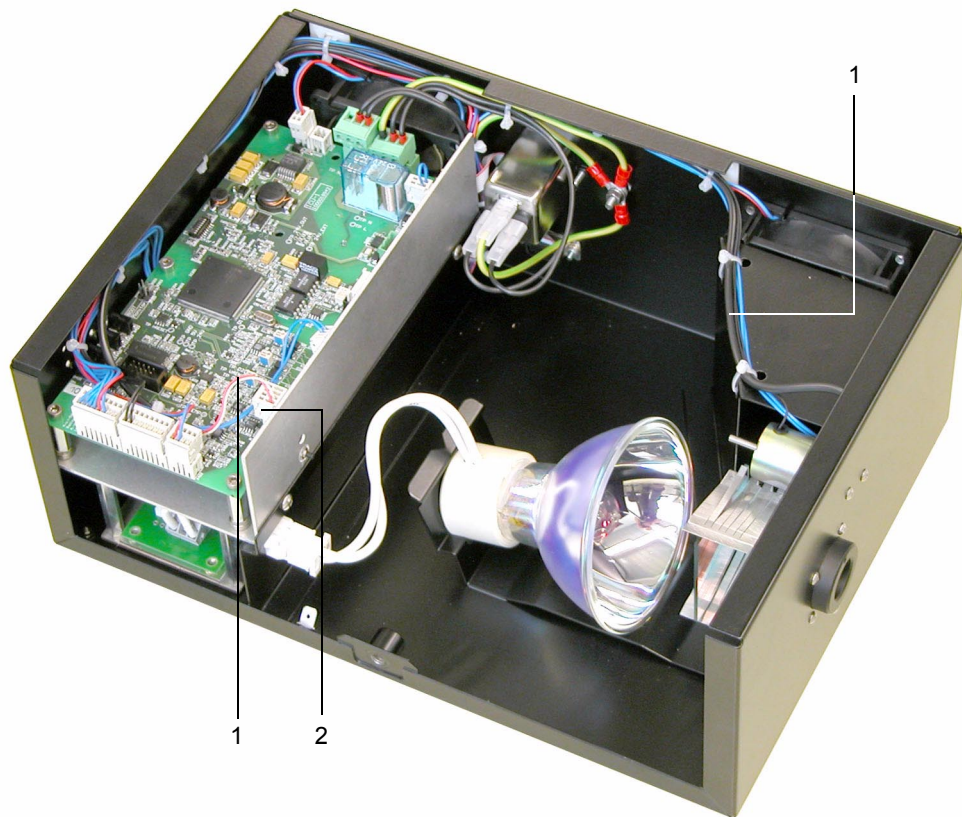
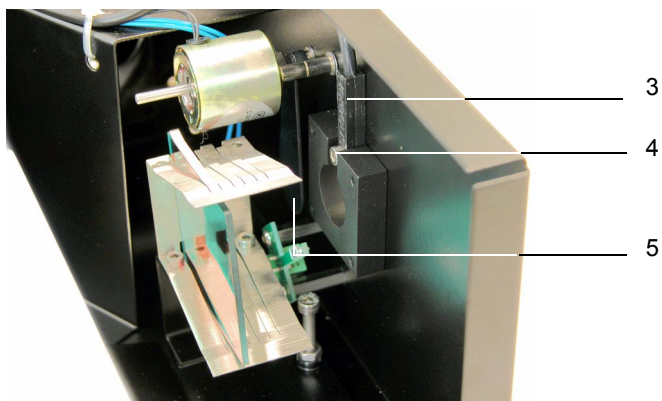

Fig. 26: Temperature Sensor (Analog Input Cable)
Fig. 27: Temperature Sensor
7. **Fig. 26:** Disconnect the analog input cable (1) for the temperature sensor from the ICU.
9. **Fig. 27:** Remove the temperature sensor (3) by undoing its fastening screw (4).
11. Check whether the shutter blade (5) can freely move into "closed" position.
12. **Fig. 26:** Run the sensor's analog input cable (1) towards the input connector (2) on the ICU and fasten it with cable ties and clamps.